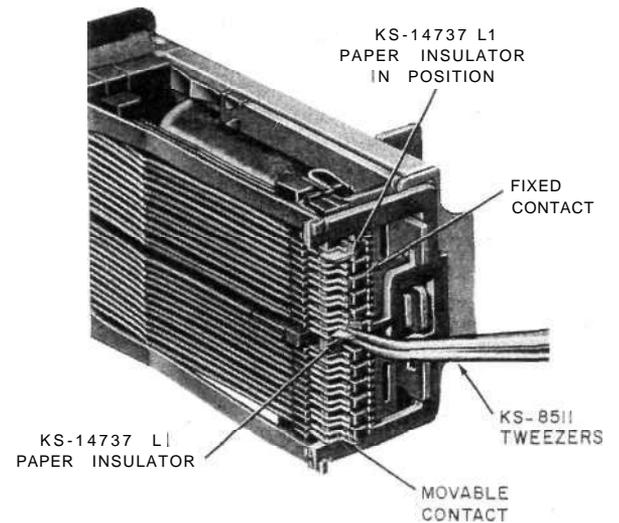
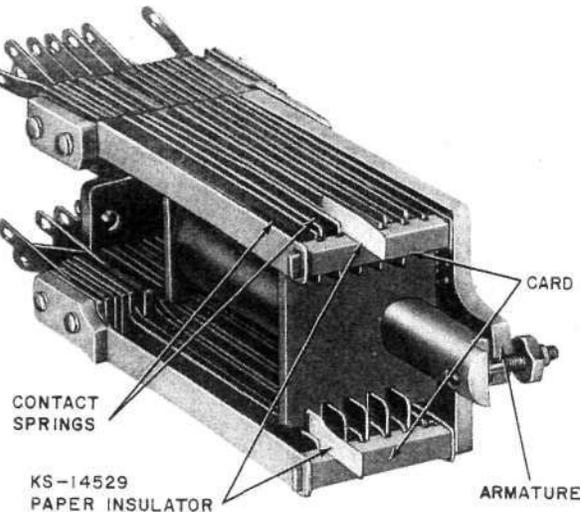

Fig. 44—Insulating Contacts of Wire-Spring Type Relays (AJ-Type Illustrated)
Fig. 45—Insulating Contacts of UB-Type Relays
5.04 *Insulating Contacts on AF-, AG-, AJ-, AK-, AL-, AM-, BF-, BJ-, BL-, BM-, 286-, and 288-Type Relays (Wire Spring Types):* Fig. 44.
(1) Use the KS-14737, L1, paper insulator, as covered in (3). The procedures for insulating normally open or normally closed contacts are the same, except in the case of normally closed contacts, block the relay operated as covered in paragraph 3.08. Remove the blocking tool after the insulator has been positioned between the contacts.
(2) The KS-14737, L1, paper insulator, is a small bond paper insulator folded down the middle with two ears folded out at one end. When the main folds are held together, the insulator assumes the shape of a Y. In order to avoid contaminating these insulators, they should be kept in their container until required for use.
(3) To insulate a contact, first remove the contact cover from the relay. Remove an insulator from the container with the KS-8511 tweezers, taking care not to damage or soil the insulator. Hold the insulator with the tweezers from the side opposite the center fold with the tip of the tweezers approximately at the center of the insulator. Check that the ears are in a position so the insulator is in the form of a Y, and if necessary, bend the ears to this shape. Place the ears of the insulator against the fixed contact at an angle of approximately 45 degrees to the movable contacts, as shown in Fig. 44. Position the insulator so the main folds are between the twin movable contacts with the ears against the fixed contact. After the insulator has been partially inserted in this way, push it back against the card with the side of the tweezers. Remount the contact cover.
(4) To remove an insulator, first remove the contact cover. Then remove the insulator with the tweezers, manually operating the relay if the insulator is between break contacts. Remount the cover.
**5.05 Insulating Contacts of UB-Type Relays:** Fig. 45—Insulate contacts by inserting a KS-14529 paper insulator as follows. Insert the short leg of the insulator downward